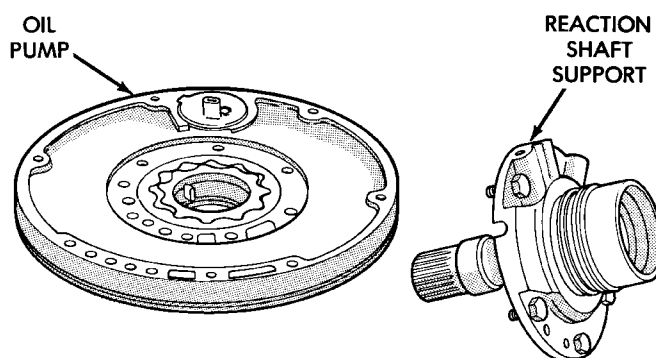

Fig. 158 Reaction Shaft Support
- (1) Mark position of support in oil pump body for assembly alignment reference. Use scribe or paint to make alignment marks.
- (2) Place pump body on two wood blocks.
- (3) Remove reaction shaft support bolts and separate support from pump body (Fig. 158).